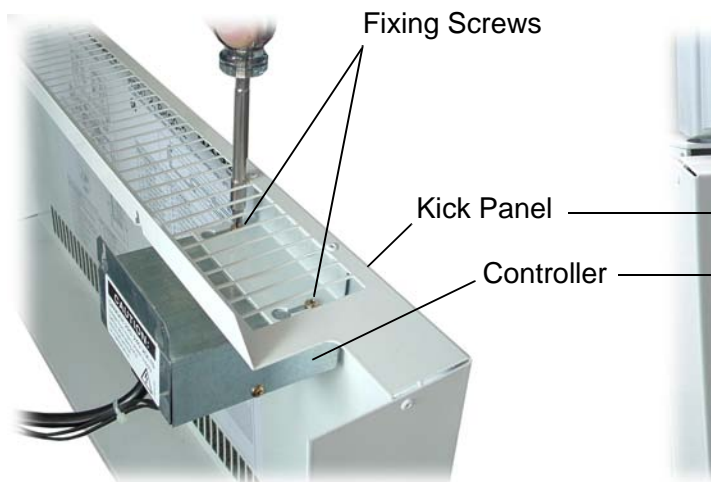

Figure 1:
2. Locate the controller box onto the back of the kick panel, so the two screws in the top of the controller box slot into the keyholes in the kick panel. Tighten the keyhole fixing screws through the top set of slots (see Figure 1 below).